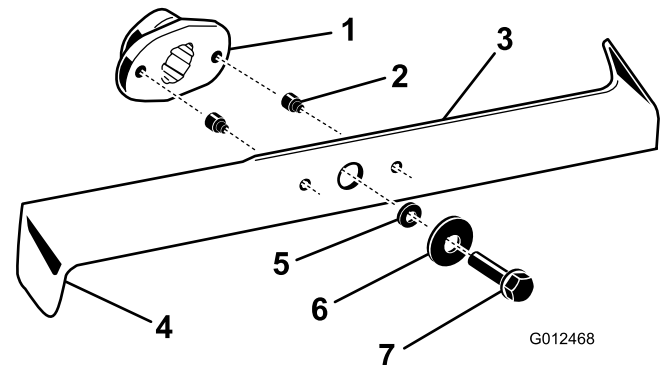

Figure 37
2. Inspect the cutting edges (Figure 37). If the edges are not sharp or have nicks, remove the blades and sharpen them; refer to Sharpening the Blades.
3. Inspect the blades, especially the bent edges (Figure 37). If you notice any wear or damage in this area, immediately install new blades.
4. If the shear pins are broken, replace them immediately (Figure 37).
3. Remove the bolts, washers, and blades (Figure 37). Wedge a block of wood between each blade and the mower to lock the blade when you are removing each bolt.
1. Install the blades, washers, and blade bolts (Figure 37).